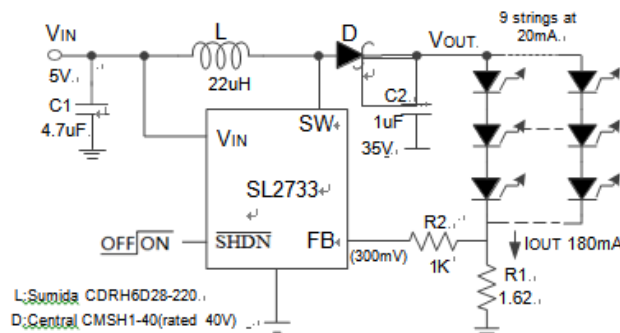

Figure 5-1 Typical Application Circuit 1
The SL2733 can be used in GPS navigation systems, portable multimedia players, and other hand-held devices. If you want to figure out how exactly it works, the typical application circuit illustrated in Figure 5-1, 5-2 and 5-3 may help. Note here, the LED's spec in Figure 5-1 is 3.3V/20mA, and 2.1V/250mA in both Figure 5-2 and 5-3.
**Table 5.2 Recommended Operating Conditions (Refer to Figure 5-1)**
(VIN=5.0 V, IOUT = 180 mA, TAMB = 25°C, unless otherwise specified. Please refer to the typical application current in Figure 5-1)
(VIN=5.0 V, IOUT = 180 mA, TAMB = 25°C, unless otherwise specified. Please refer to the typical application current in Figure 5-1 )
A 22uH inductor is preferred in the typical application circuit shown in Figure 5-1. If the circuits prioritize efficiency, an inductor with low series resistance would be the top choice. And inductors with a saturation current equal to or greater than 800mA are also advisable. It would strongly recommend using the 22uF Sumida CDRH6D28-220 inductor with 1.2A rated saturation current and 128mΩ directive current resistance (D.C.R).